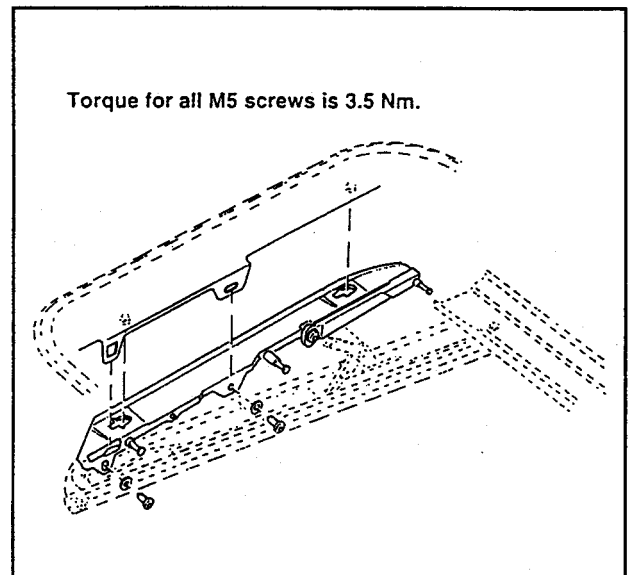

Fig. 21 - Locating and Adjusting Glass height at Rear.
10. Adjust height at the rear by loosening rear torx screws. Place top of glass in level with roof skin, tighten screws - Fig. 21.